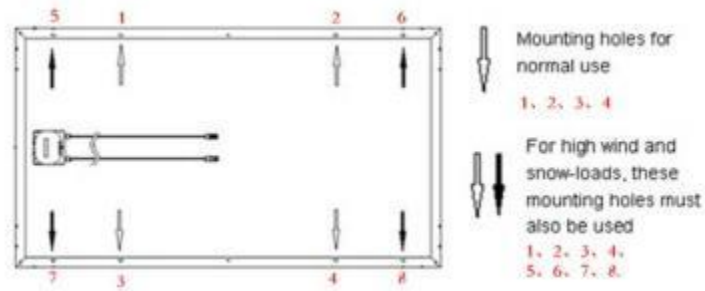

FIG 4 Mounting holes
- ▶ The frame of each module has 4 mounting holes used to secure. As shown in Figure 4, four mounting holes are needed in normal .Regarding to large modules of type 72, eight mounting holes are needed or in the condition of sustaining higher load.